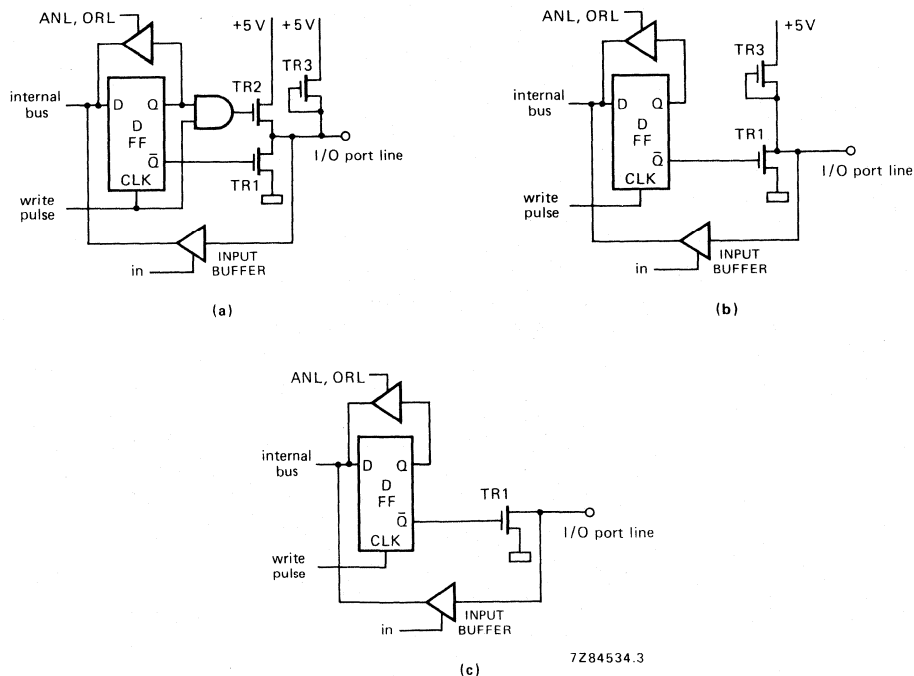

Fig. 5 Port option configurations.
**I/O facilities** (see Fig. 5)
- A push-pull output with pull-up (Fig. 5 (a))
- Open drain with pull-up (Fig. 5 (b))
- Open drain without pull-up (Fig. 5 (c))